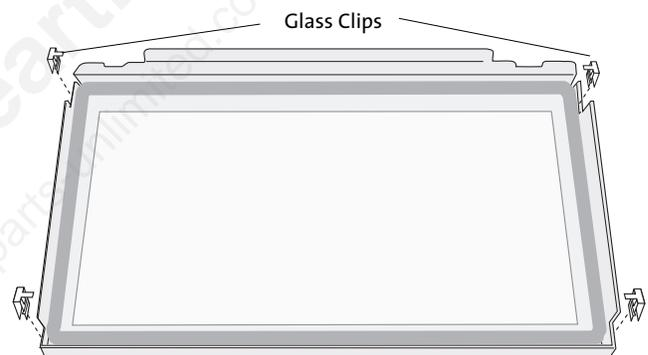

Figure 40. Use small pliers to pry the clips off of the glass panel frame.
3. The glass panel is held in place by four compression clips. Use a screwdriver or small pliers to pry these off the edge of the glass retaining walls. See fig. 40.